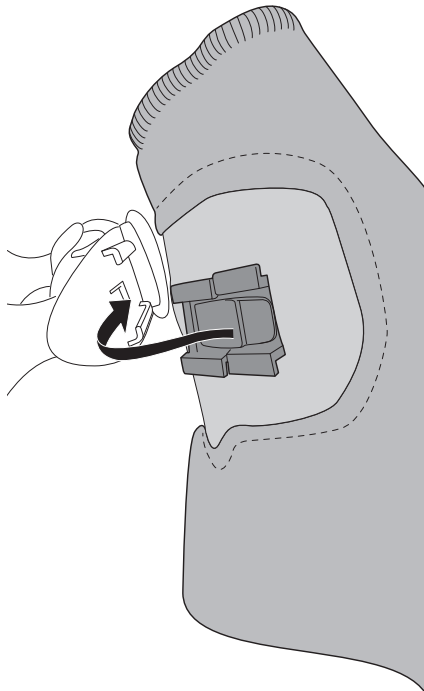

Fig. 18c
- c. Reattach the airduct tube holder to the head suspension. You will hear an audible “click” when appropriately connected (Fig. 18c and 18d).